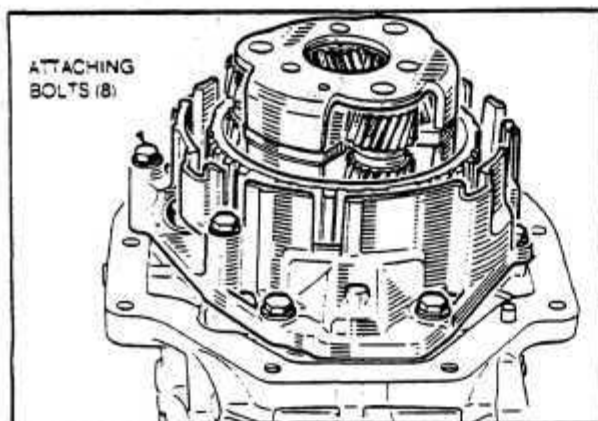

Fig. 67 PLANETARY GEAR HOUSING
3. Remove the bolts securing the planetary gear carrier housing to the case and remove the carrier assembly and gasket. *Fig. 67*